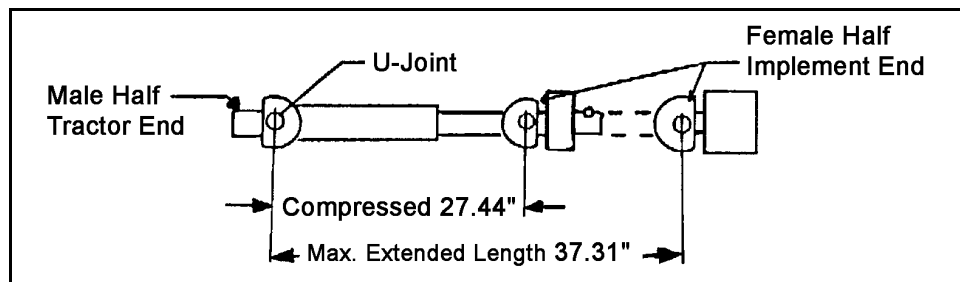

Figure 5. Driveline Dimension
5. Move the unit to its highest and lowest working position and measure this dimension again. [The unit's shaft can telescope (see Figure 5) before it has been shortened.]